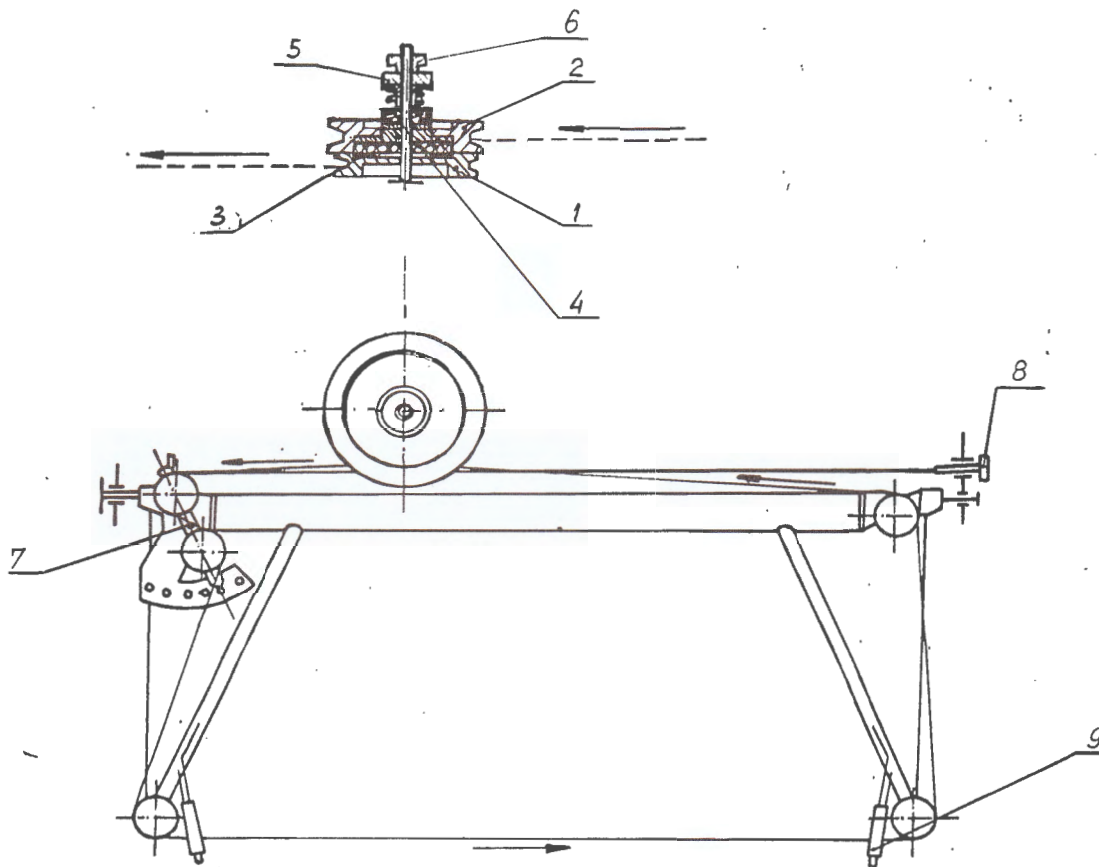

fig.3
2.3.4. The new wire is spooled off from a reel (1) (see fig.3) and the used one is spooled on the reel (2). Both reels are mounted on the same axis but there is a sliding joint between them. Reel (1) is turned through a small angle by each stroke of the wire frame. This rotation is transmitted from the smaller reel (1) to the bigger reel (2), by the special pad acting as a friction clutch (3). The difference of the reel diameters results in a permanent force tightening the wire. The clutch is used to compensate the difference in circumferential speeds of reels. The frictions is adjusted by the compressive force of the spring (4) which is blocked by thumb nut (5) and locknut (6). A greater friction causes greater tension of the cutting wire. The current wire tension is being shown by the indicator (7). It is recommended to record the position of the indicator before replacement of the wire with a new one. If the wire is replaced with a thicker one its tension should be increased and vice versa. Particular values of the tension are to be determined experimentally.
2.3.5. The wire press against the sample is adjusted by turning the graduated knob (8) located in the rear right hand corner of the wire frame (see fig.3). The knob controls the torsional strain of the spring wire, producing a holding wire down force.
Wind out some 1m of the wire from the reel (1) (see fig.3 and point 2.3.4.). Fix the loose wire end to the reel (2) and wind some wire on it. Holding this reel with your fingers thread the wire through the pulleys and set up on his place. 50 μm wire diameter meets requirements for most purposes; a wire thicker than 60 μm may cause the frame damage.
The wire tension is controlled by the spring (4) (see fig.3 point 2.3.4.). In order to adjust the wire tension, loosen the upper nut (retaining nut) (6) and then turn the lower thumb nut (5) to obtain proper spring compression. The required tension depends on the wire thickness. The best results are obtained when the force tensing the wire is nearly equal to its tensile strength. Tightening up the nut increases the wire tension.